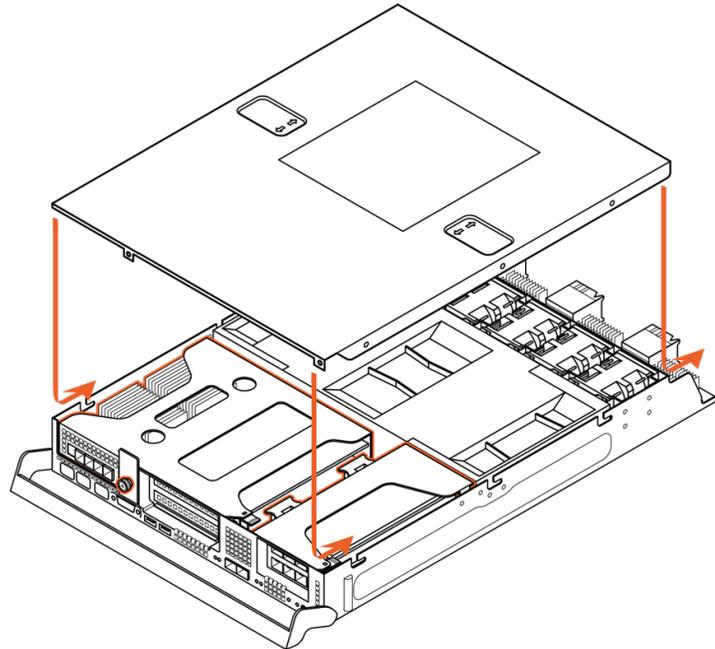

Figure 14-17. Replacing the Controller Cover
1. Align the pins on the left and right edges of the cover with the slots in the controller body, as shown in Figure 14-17.